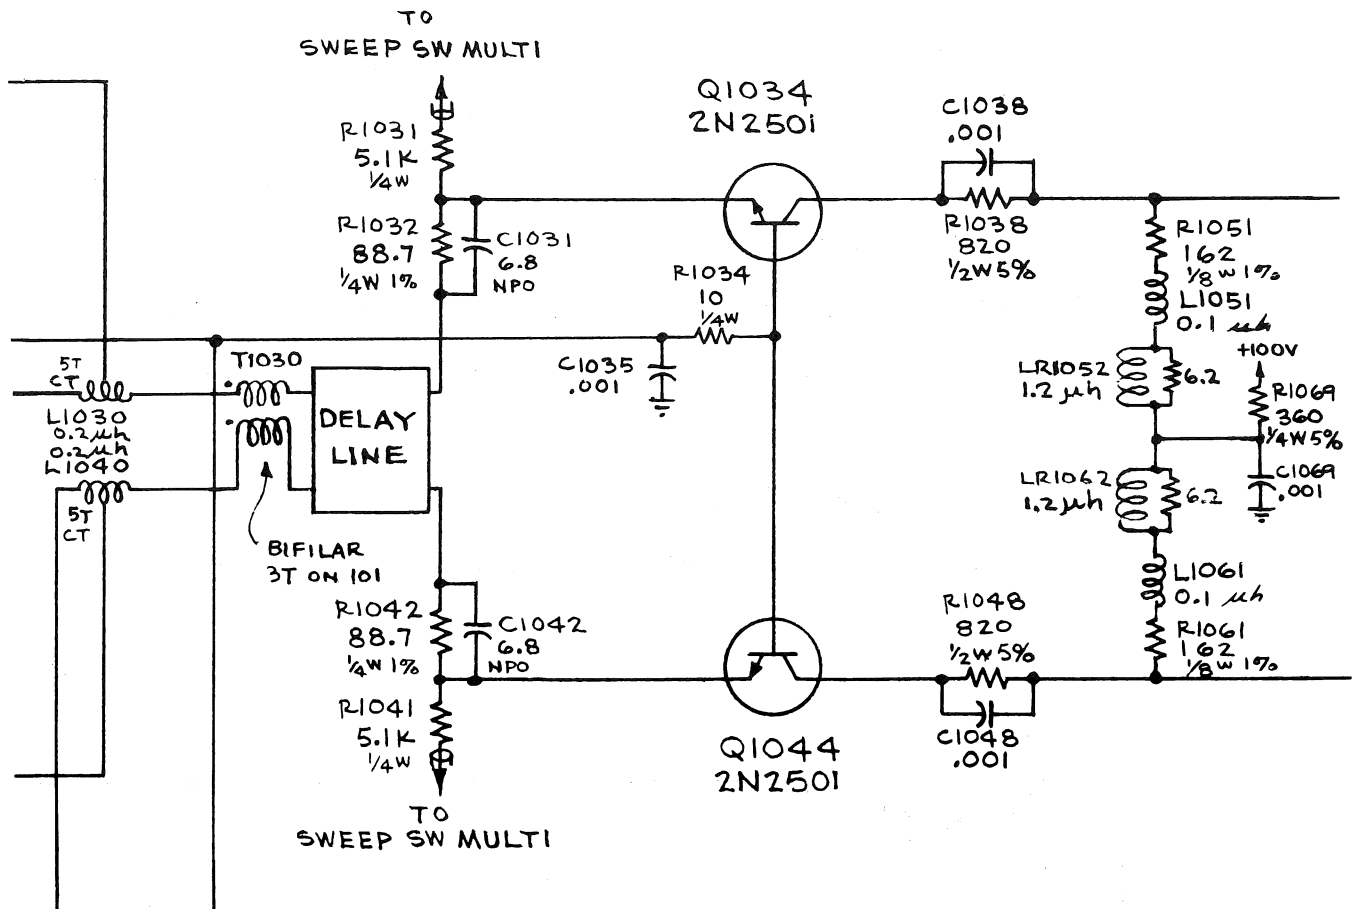

Figure 1-4
4. Third stage (Q1034 and Q1044) (Fig. 1-4)